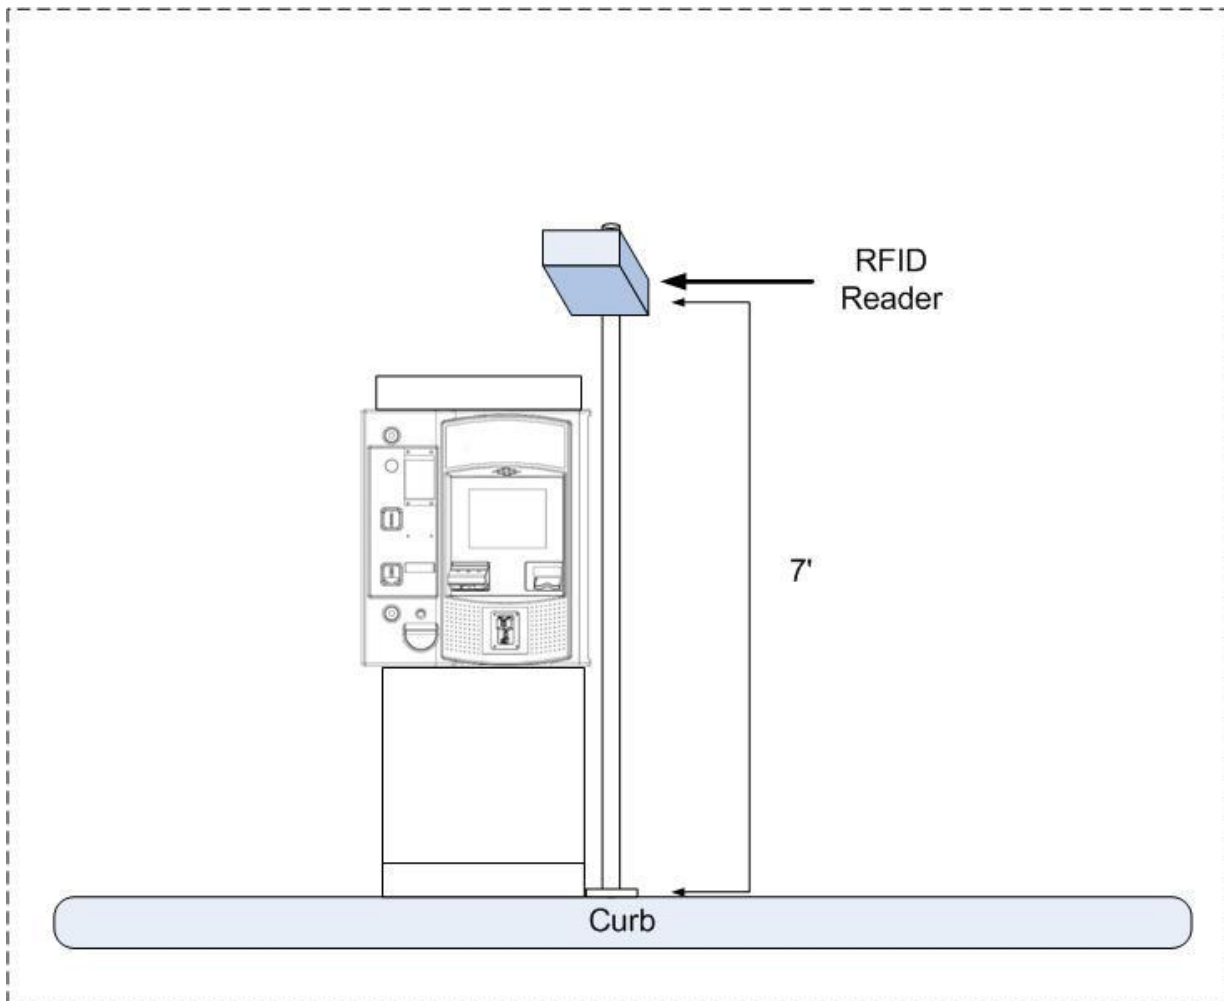

Figure 5. RFID Reader Installation - Front View
If using the optional mounting pole, the reader should be mounted beside the far side of the Unitec entry unit (with the flange flush against the base, as shown in Figure 5) because the proximity sensor on the unit door can be setup to activate the reader. The reader should be mounted on a pole 7 feet above the vehicle lane.
To mount the post, the installer will need to drill (4) holes and use concrete anchor bolts to secure the flange to the concrete, as shown below. The flange should be flush to the side of the entry unit, as shown in Figure 5.